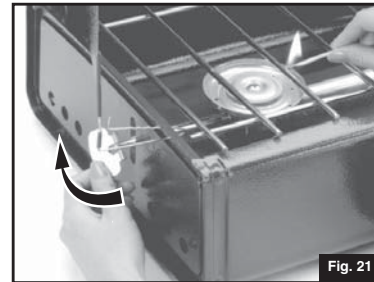

Fig. 21
- Hold lit match at edge of AUXILIARY BURNER and open the AUXILIARY VALVE. (Fig. 21)